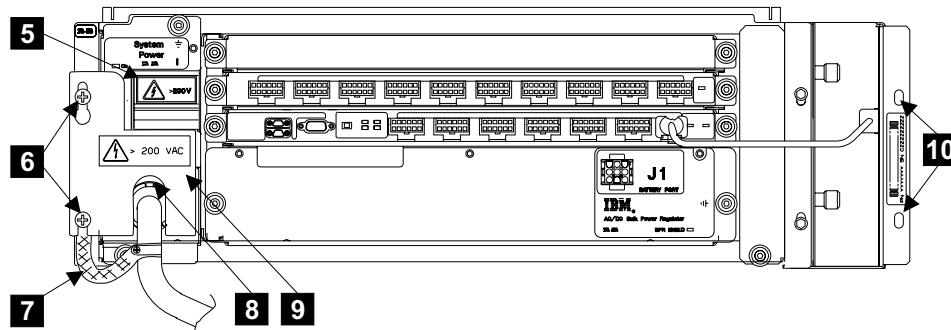

Figure 56. Bulk Power Supply Removal (t007126l)
4. On the bulk power supply you are repairing, press the System Power circuit breaker (CB), **5** in Figure 56 on page 75, to Off (O, down).
7. Remove the two screws, **6** in Figure 56, then remove the mainline power cable retention plate **9**.
Attention: For assembly, note how the mainline power cable ground strap, **7** in Figure 56, is clamped by the retention plate **9** and its lower mounting screw **6**.
8. Disconnect the mainline power cable from the bulk power supply J1 connector, **8** in Figure 56.
13. Remove the two BPS mounting screws, **10** in Figure 56 on page 75.
- b. Set BPS System Power circuit breaker (CB) **5**, in Figure 56 on page 75, to On (I, up).